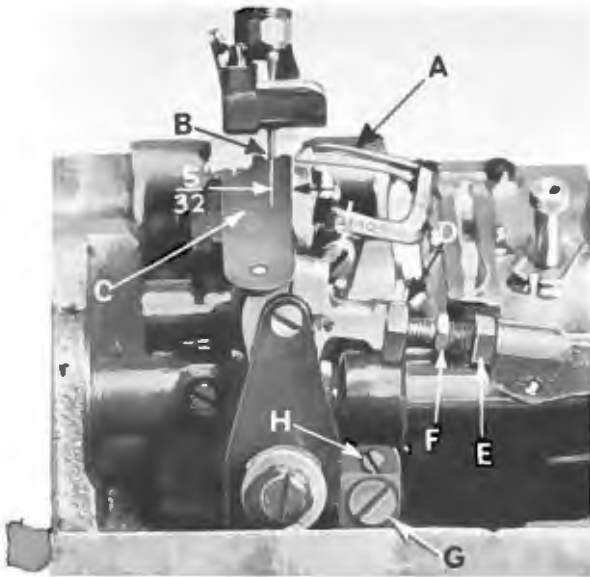

Fig. 6
Insert a new needle, type and size as specified. If the looper gauge is $\frac{5}{32}$ inch, for example, set the looper (A, Fig. 6) so the distance from the center of the needle (B) to the point of the looper is $\frac{5}{32}$ inch, when the looper is at its farthest position to the right. Looper gauge No. 21225- $\frac{5}{32}$ (C) can be used advantageously in making this adjustment. On two needle machines set the back looper to the right needle and on three needle machines set the middle looper to the middle needle, when setting the looper gauge. Refer to chart on the following page for needle Type, looper gauge setting and looper gauge number. If adjustment is required, loosen nut (D) (it has a left hand thread) and nut (E) on connecting
If adjustment is necessary, loosen lock screw (G, Fig. 6) and turn stop screw (H) as required. Turning stop screw clockwise sets the looper to the rear and turning it counterclockwise acts the reverse. Holding looper to the front while making this adjustment may prove helpful. Tighten lock screw when setting is obtained and recheck the adjustment.